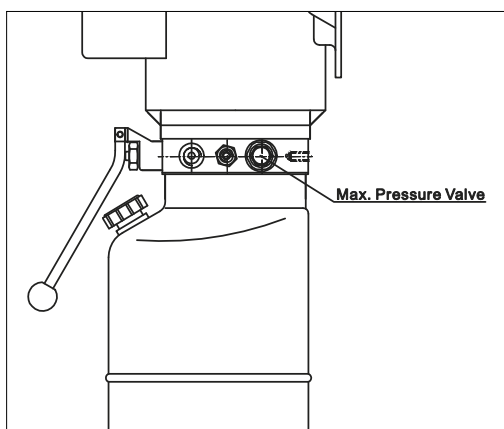

Fig. 13
- ◆ The maximum pressure valve (**Fig. 13**), located on the hydraulic oil power unit, will trip if the lift is overloaded.